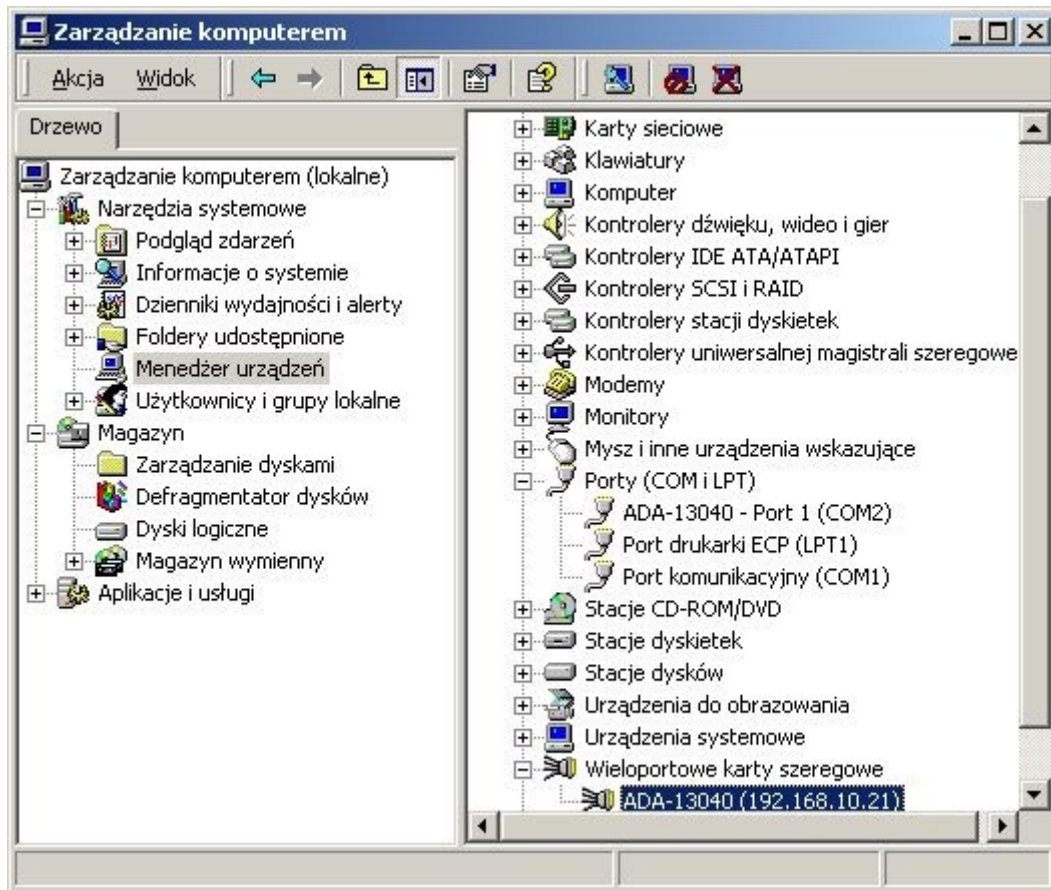

Fig 21. Devices view on Windows XP system
3. Press [ **Ports (COM & LPT)**]. On Fig. 21 you can see available serial ports COM1, COM2 and **COM3** marked as **ADA- 13040** which was create after installation of RealPort driver.